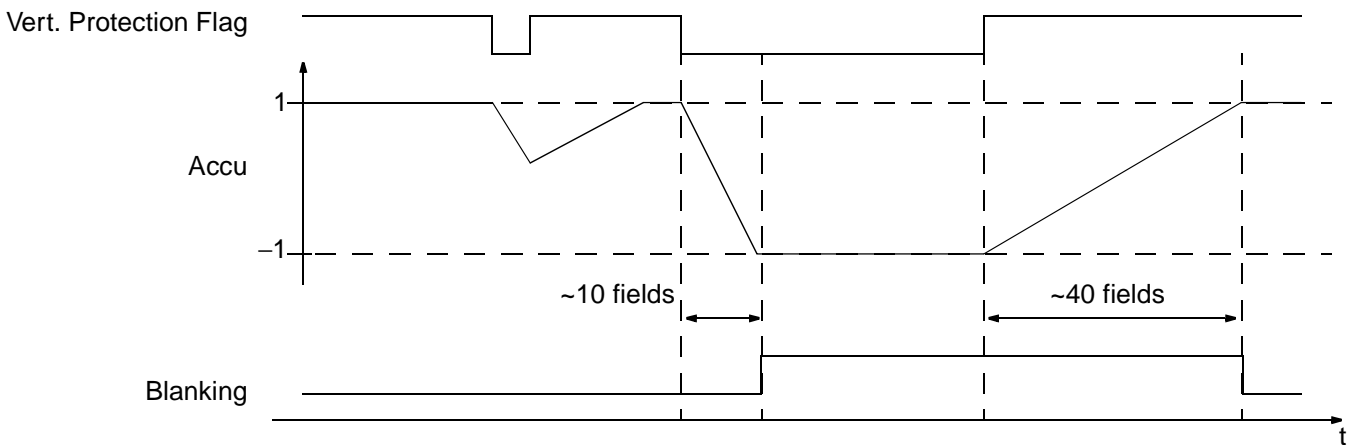

Fig. 2-17: Protection timing
- Vertical protection input: this pin watches the vertical sawtooth signal. In every field the sawtooth must descend below the lower threshold A and ascend above the upper threshold B. In this case the protection flag is set (sawtooth o.k.). If an error occurs the protection flag is cleared. After approx. 10 fields with cleared flag, the RGB drive signals are blanked. The blanking is cancelled if the flag is set for 40 fields (see Fig. 2-17).